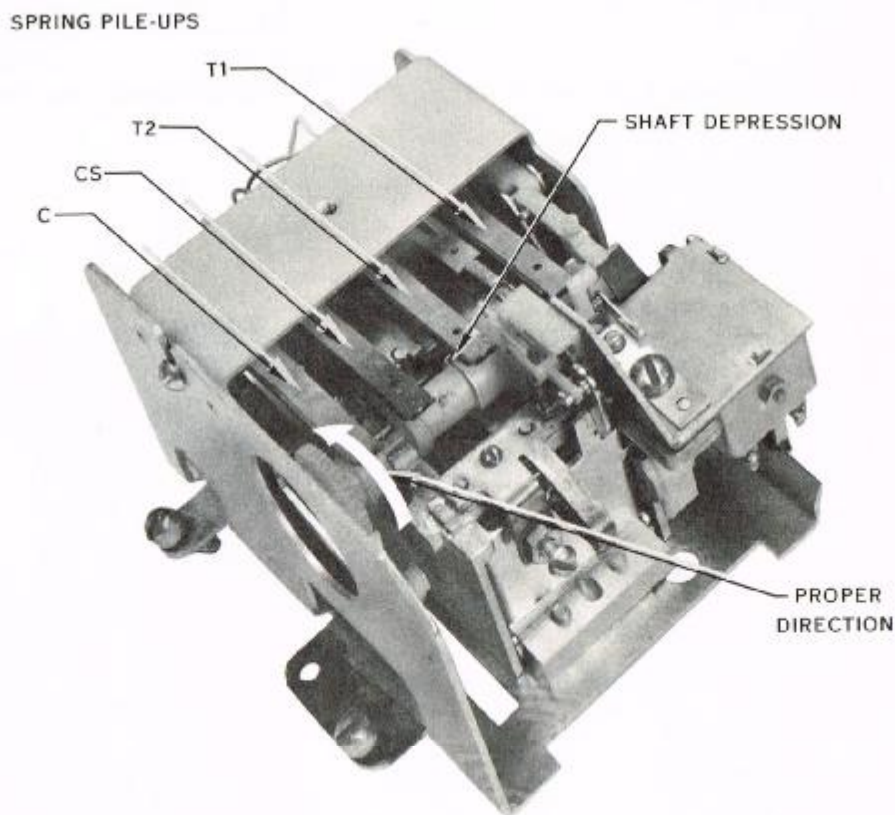

Fig. 8 - Totalizer Spring Pile-ups
Use extreme care when setting totalizer. Avoid damaging pawl and spring pile-ups. (See Fig. 8.)
- (1) Rotate shaft in the proper direction (from bottom to top) until springs T2 rest in depression on shaft (Fig. 8).
- (7) Rotate second paper clip in the proper direction (Fig. 8) until springs T2 come to rest in depression on the shaft. This is zero rate position.
- (1) Rotate shaft in proper direction until springs T2 rest in depression on shaft (Fig. 8).